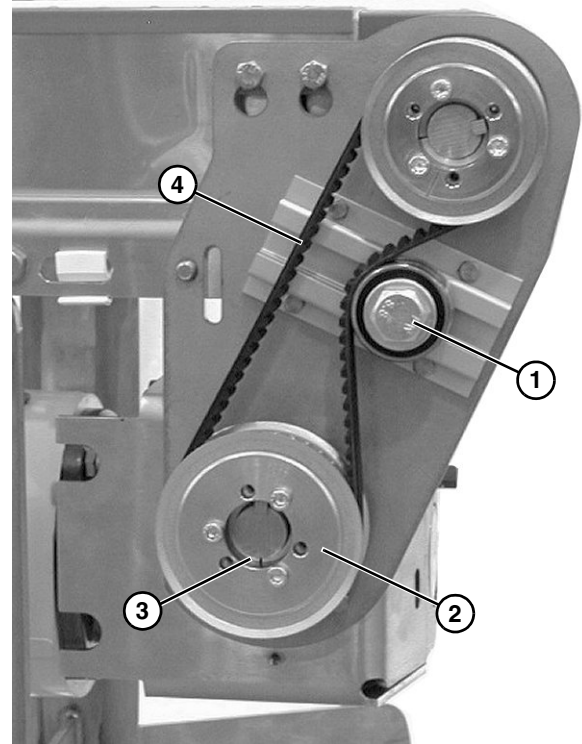

Figure 19
If drive pulley (**Figure 19, item 2**) is replaced, wrap timing belt around drive pulley and complete step 3.
- Loosen tensioner (**Figure 19, item 1**).
- Remove pulley (**Figure 19, item 2**), taper hub assembly (**Figure 19, item 3**), and timing belt (**Figure 19, item 4**).